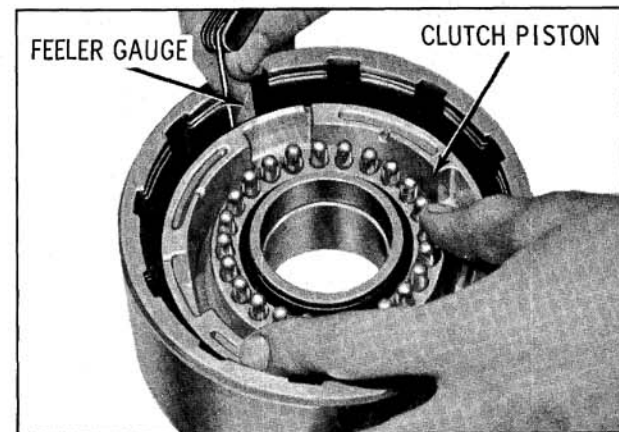

Fig. 6-445 Installing Clutch Piston
5. Install forward clutch piston into clutch drum using a .005" feeler gauge to start lip of seal into bore. (Fig. 6-445)